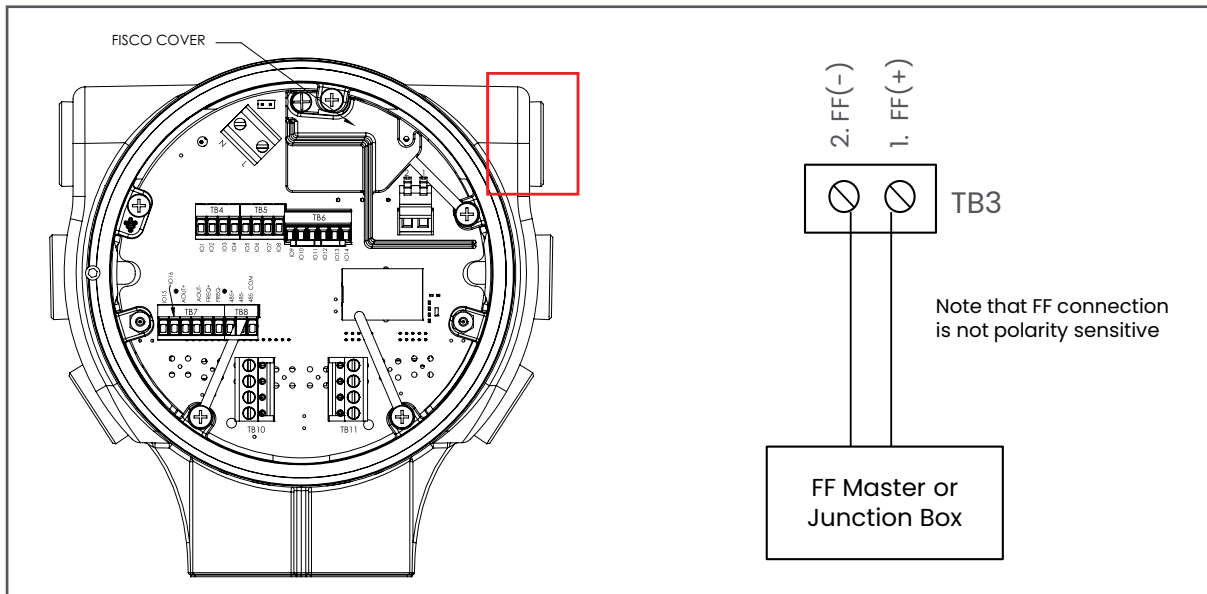

Figure 21: Wiring the Foundation Fieldbus Port
2. Install the required cable gland in the chosen conduit hole on the side of the electronics enclosure. It is required to use the hole next to the FISCO cover on the top right side of the enclosure, as shown in Figure 21.
3. Feed one end of the cable through the conduit hole and wire it to the terminal block as shown in *Figure 21*. Note the connection for foundation Fieldbus is not polarity sensitive. Secure the cable gland.